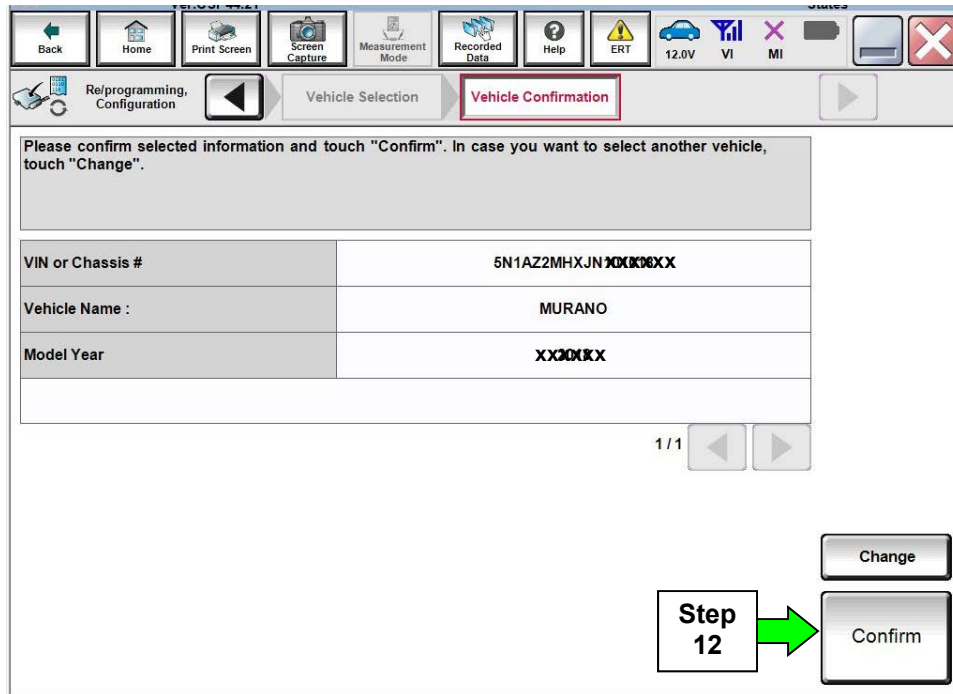

Figure 4
- If the screen in Figure 4 does not display, skip to step 12.